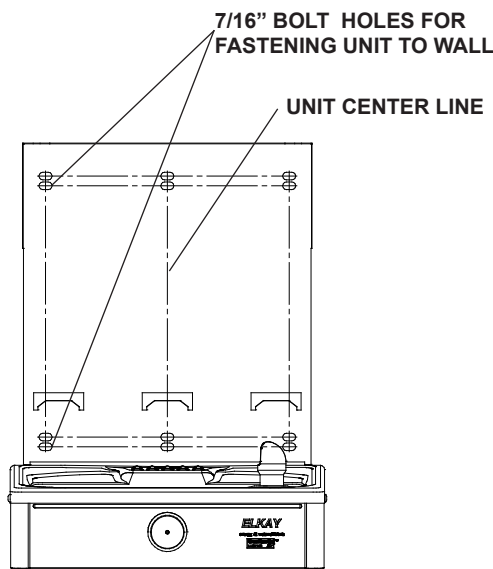

Fig 8
- 2) **Remove wall mounting plate from Bottle Filler.** Place wall plate against wall on top of basin. Center the wall plate side to side with the basin. Mark the six (6) mounting holes with a pencil (See Fig. 8).
- 4) **Install wall mounting plate to wall** using six (6) 7/16" obround mounting holes (mounting bolts not included) (See Fig. 8). Use appropriate fasteners for your wall type.